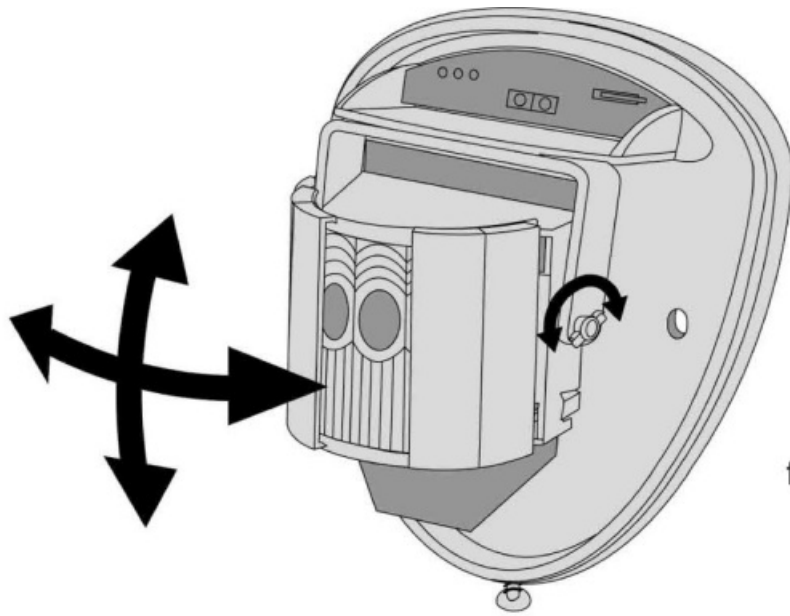

fig. 9
- When mounting higher than boundary fences, rotate the module and mask off any beams (vertically or horizontally) that fall outside the area being covered. Use portions of the self-adhesive silver mask supplied to the rear, smooth side, of the lens as shown in the diagrams on the next page. Always replace the lens the correct way up to ensure exact beam pattern coverage (the top of the Fresnel lens is marked – TOP). See fig. 9.